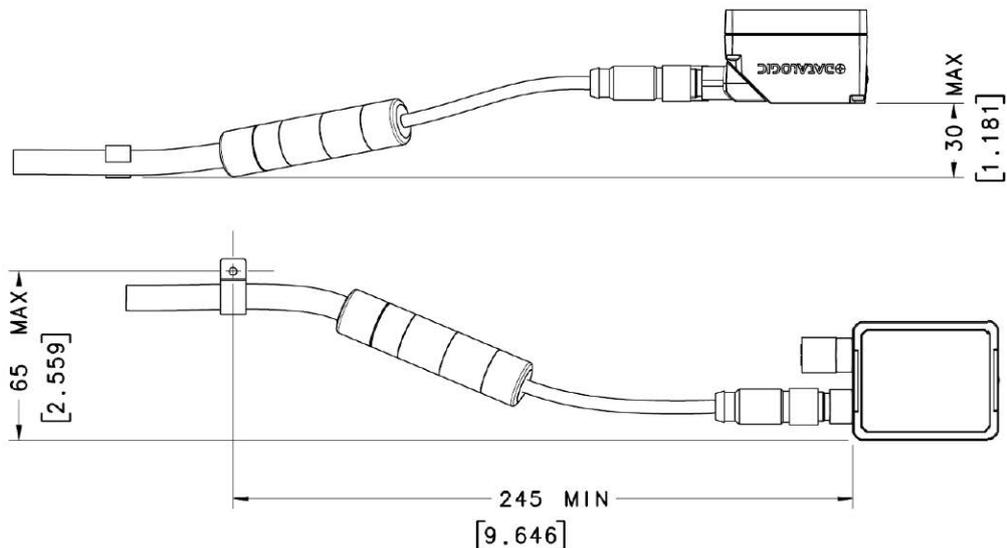
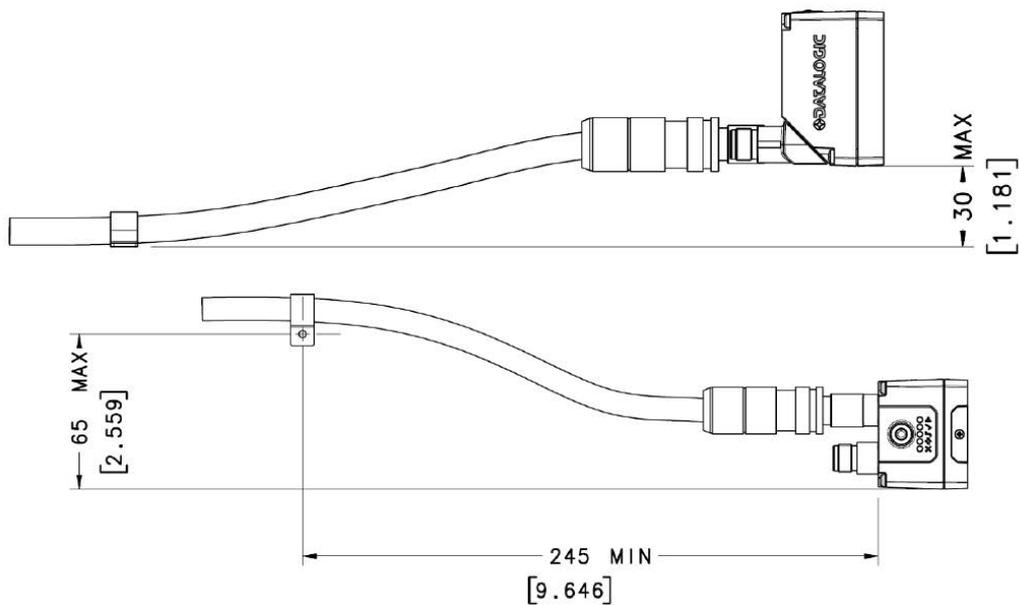
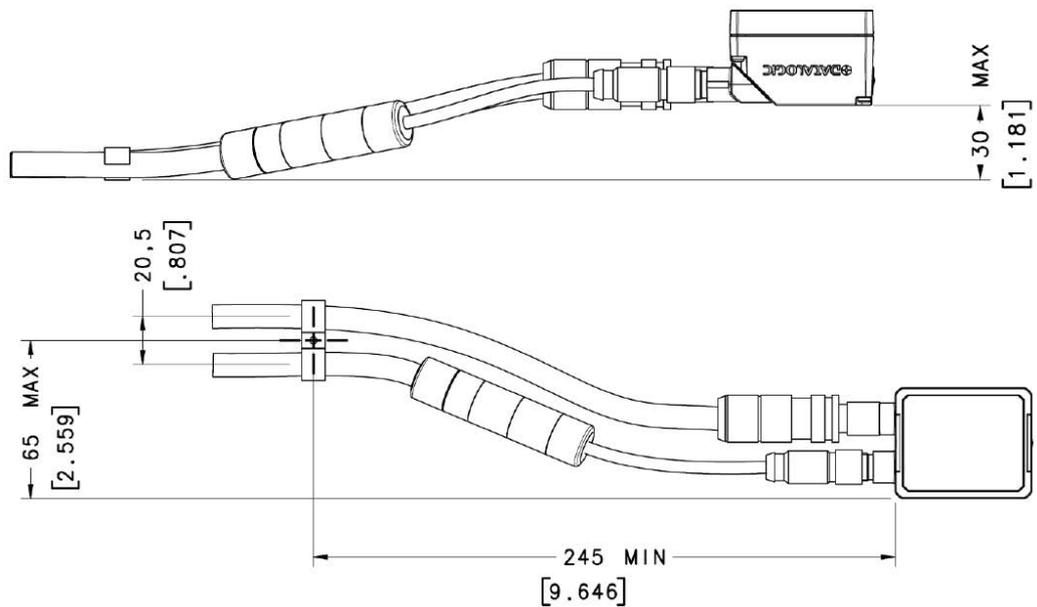
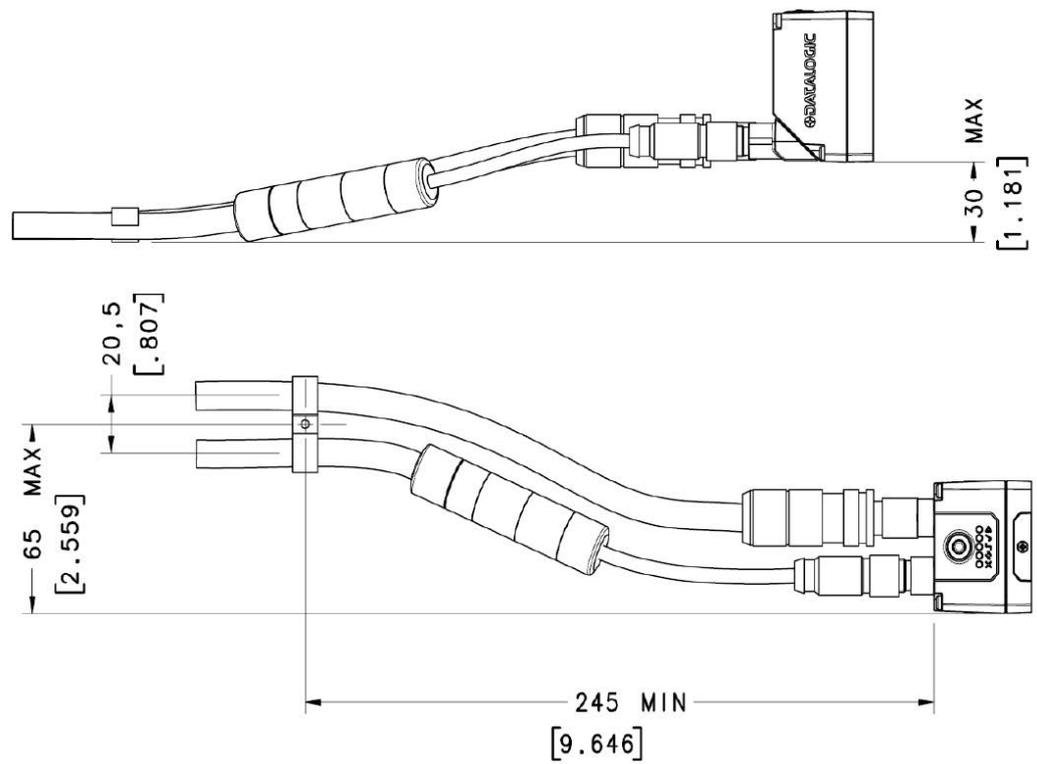

Figure 48 - Flexible power cable connected to Matrix reader with connector at 0°
Figure 49 - Flexible power cable connected to Matrix reader with connector at 90°
Figure 52 - Flexible Power + Ethernet cables connected to Matrix reader with connector at 0°
Figure 53 - Flexible Power + Ethernet cables connected to Matrix reader with connector at 90°
**NOTE: Configurations with Power cable (Figure 48 and Figure 49) or Power + Ethernet cables (Figure 52 and Figure 53) are not supported by Power over Ethernet (PoE) models.**